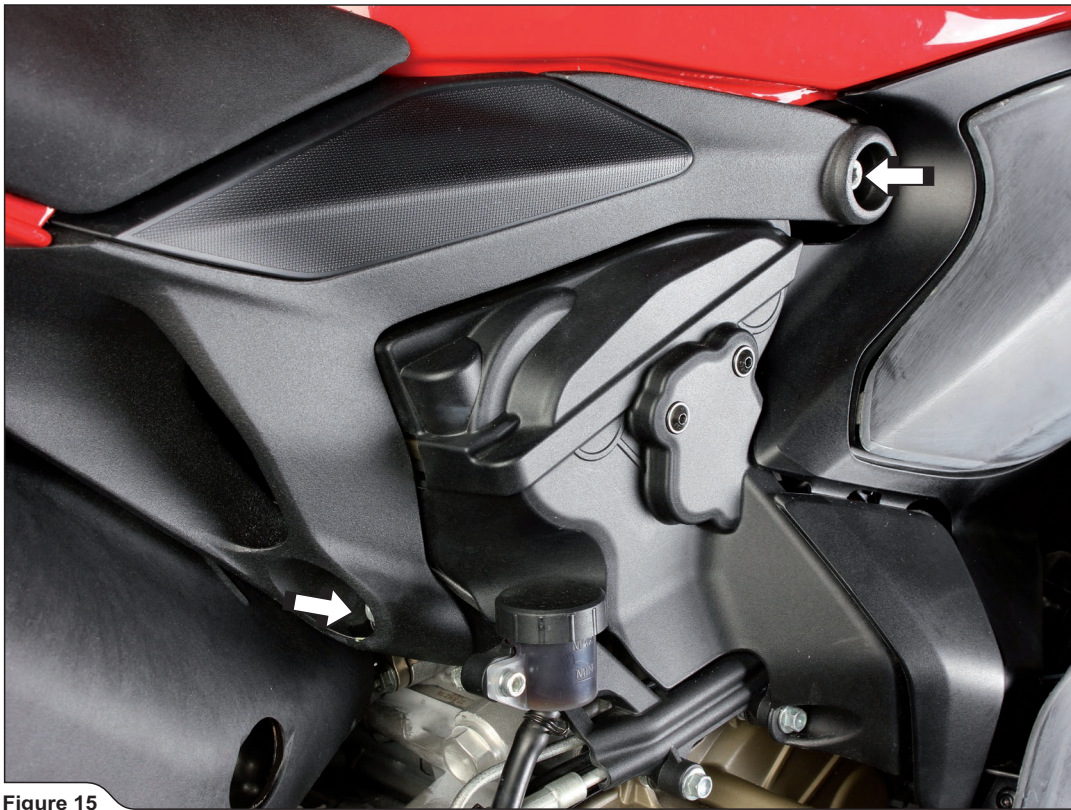

Figure 15
11. Remove the rider's seat and unscrew the marked sub frame bolts on both sides of the motorcycle (Figure 15).